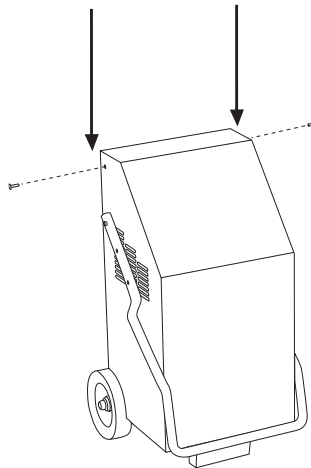

Figure 1. Remove the screws
2. Unscrew the two screws on either side of the charger as shown in Figure 1. They are the screws nearest to the top and towards the rear of the unit.